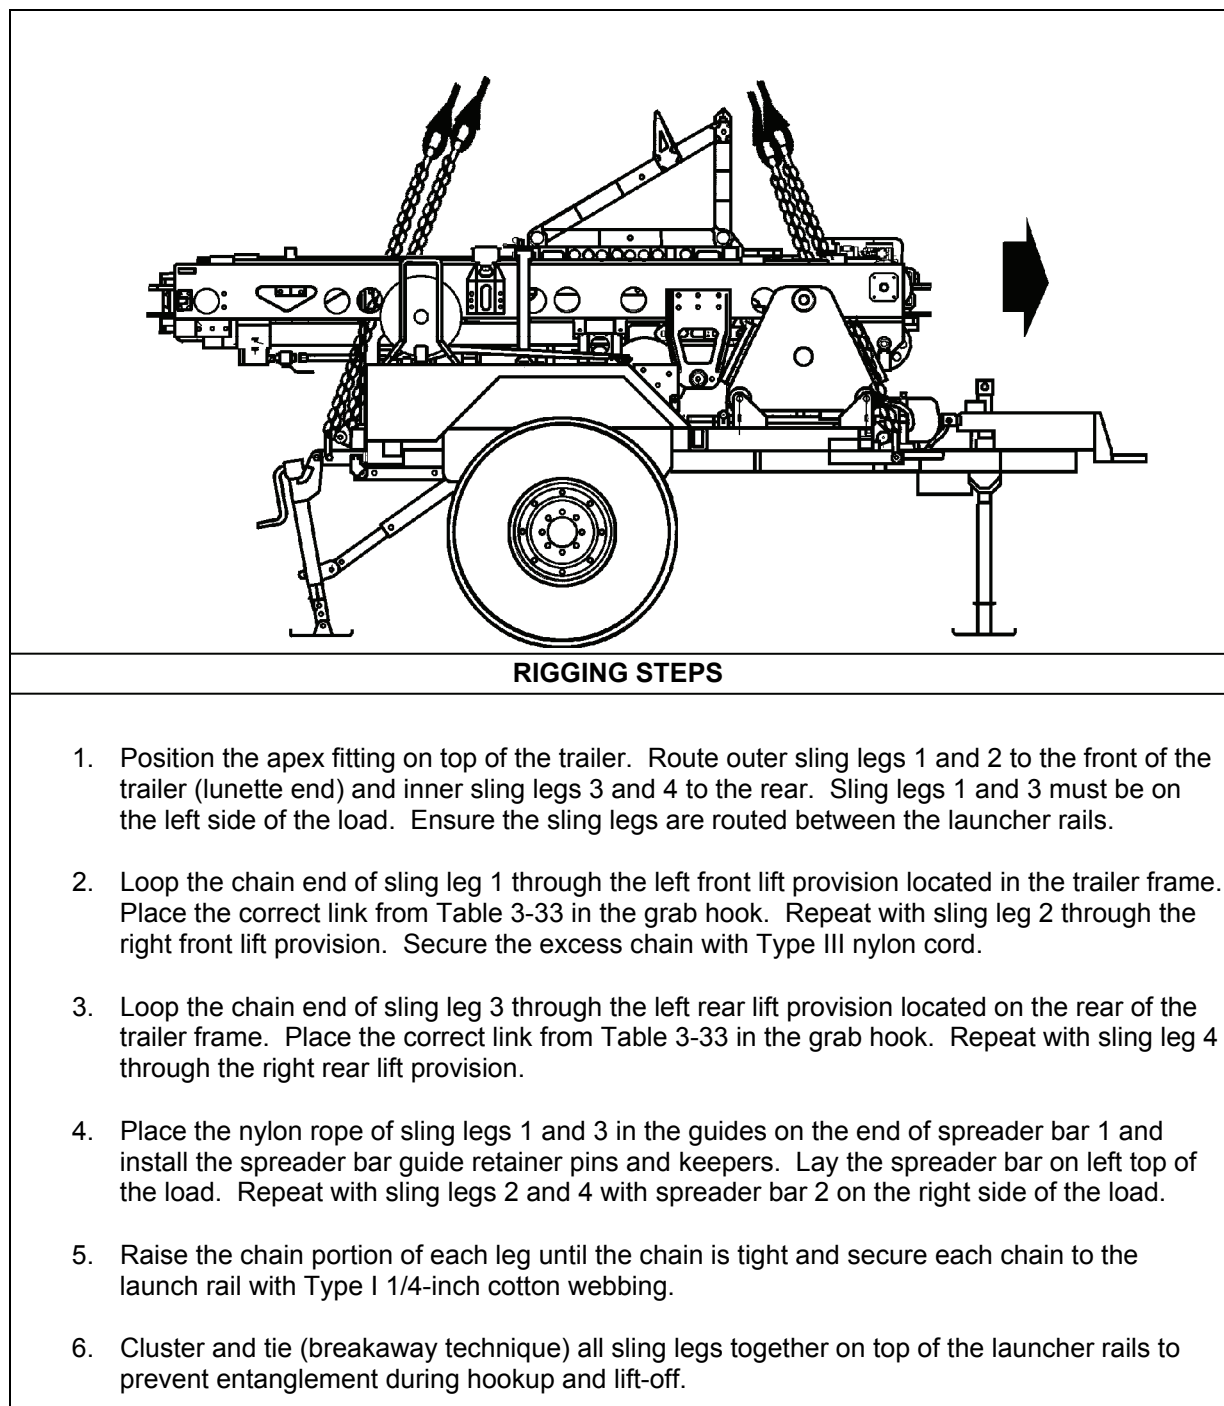

Figure 3-33. Shadow Tactical Unmanned Aerial Vehicle Launcher/Recovery Trailer
- **Rigging.** Rig the load according to the steps in Figure 3-33.